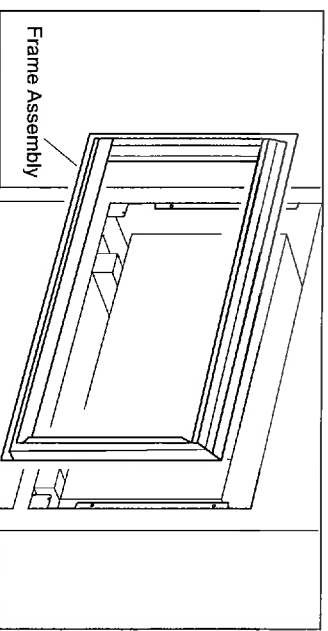

Figure 3. Frame Assembly
7. Position frame assembly to be square with oven. Carefully place frame assembly on oven. Check that it is level (See Figure 3).